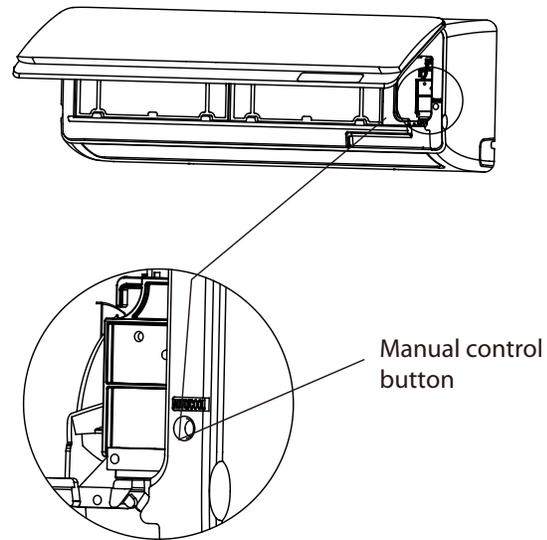

Fig. 8.1
2. The MANUAL CONTROL button is located on the right-hand side of the unit. Press it 2 times to select the COOL function. See Fig 8.1 .